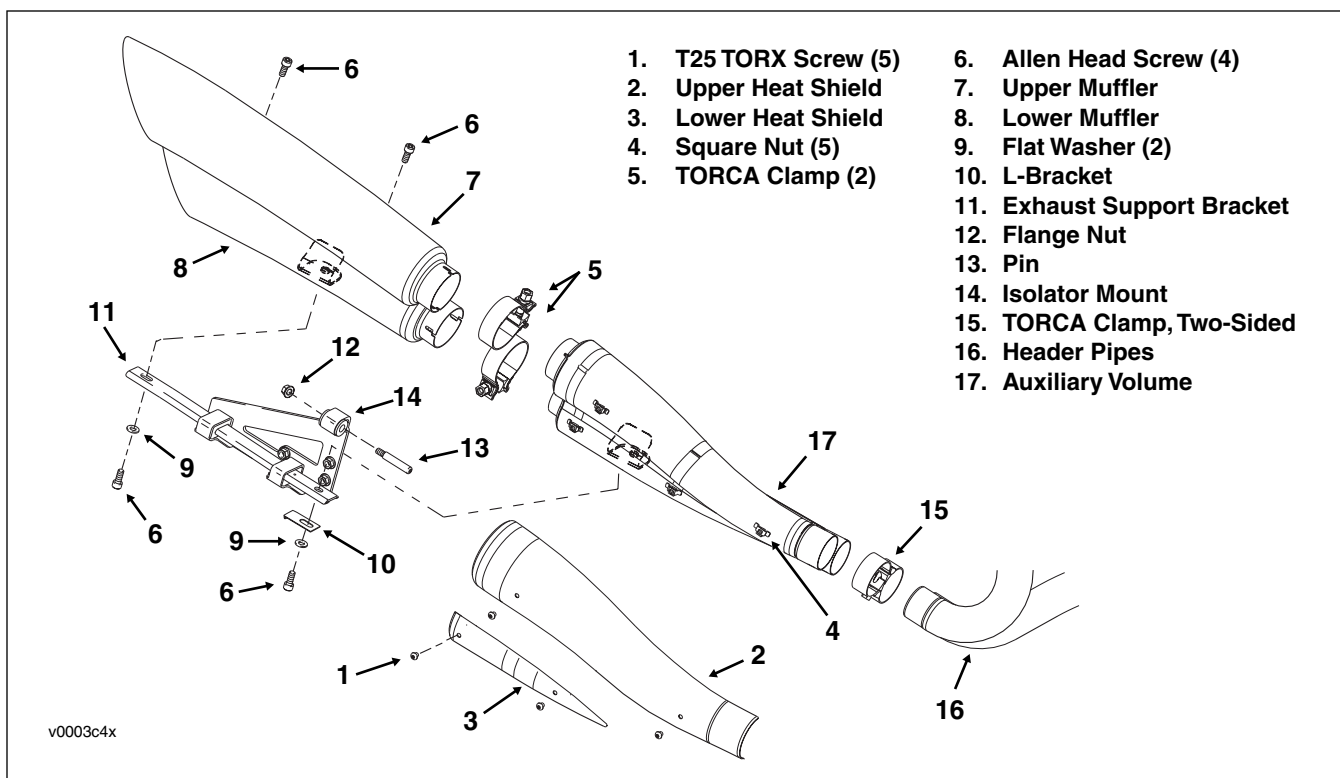

Figure 1. Remove Auxiliary Volume
2. Remove three T25 TORX screws to free upper heat shield from auxiliary volume. Remove two screws to release lower heat shield. See Figure 1.